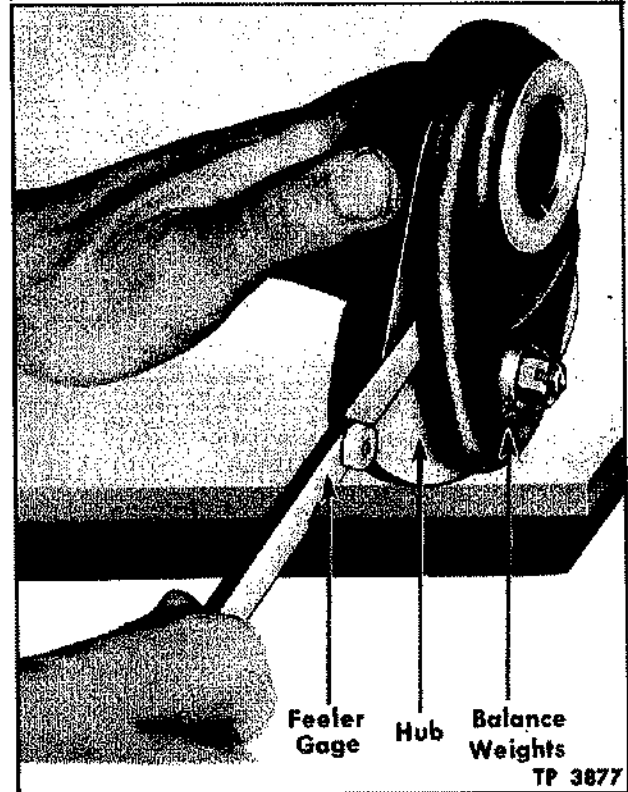

Figure 66—Measuring Balance Weight to Hub Clearance (Early 6-cyl.)
9. Check clearance between weight and hub, as shown in figure 66. Refer to **SPECIFICATIONS** section for clearance. Adjust clearance by tightening or loosening castellated nut. Lock nut in position with cotter pin when proper clearance is obtained.